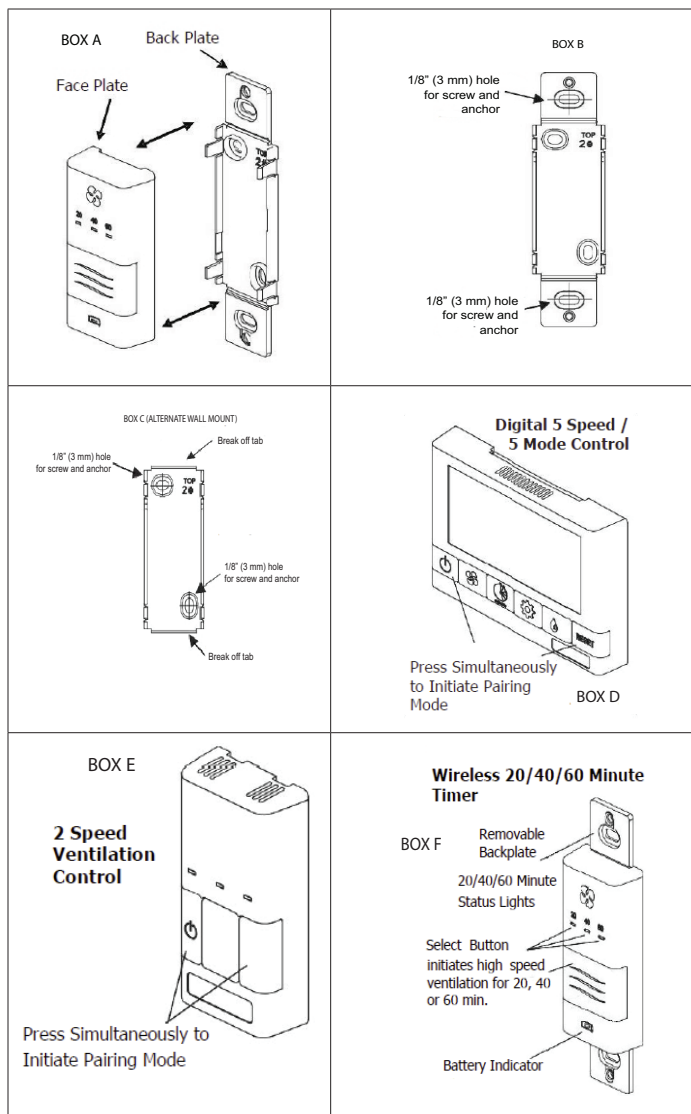

Figure 38. Wireless Timer Installation
2. Pairing **Wireless 20/40/60 Minute Timer with Digital 5-Speed / 5-Mode Control:** Press the left and right buttons simultaneously on the main wall control and (RESET buttons). The screen will go blank and the wireless symbol appear flashing on the bottom right of the display. This indicates that the main control is now in pairing mode (Figure 38, Box D).
3. Pairing **Wireless 20/40/60 Minute Timer with Wall Mount Dehumidistat/Ventilation Control:** Press the left and right buttons simultaneously on the main wall control and either or buttons, depending on the main control). The bottom row of three LEDs will begin flashing. This indicates that the main control is now in pairing mode (Figure 38, Box E).
1. Separate the face plate from the back plate by firmly pulling apart (Figure 38, Box A).
2. For mounting the control without a decorative plate, break off top and bottom tabs and refer to Figure 38, Box C for mounting.
3. Place the back plate of the control in the desired location on the wall and pencil mark the top and bottom screw holes (Figure 38, Boxes B or C). Drill two 1/8" (3 mm) holes.
4. Attach the back plate to the wall using the two supplied screws and anchors. 5. Attach the face plate to the back plate (Figure 38, Box A).